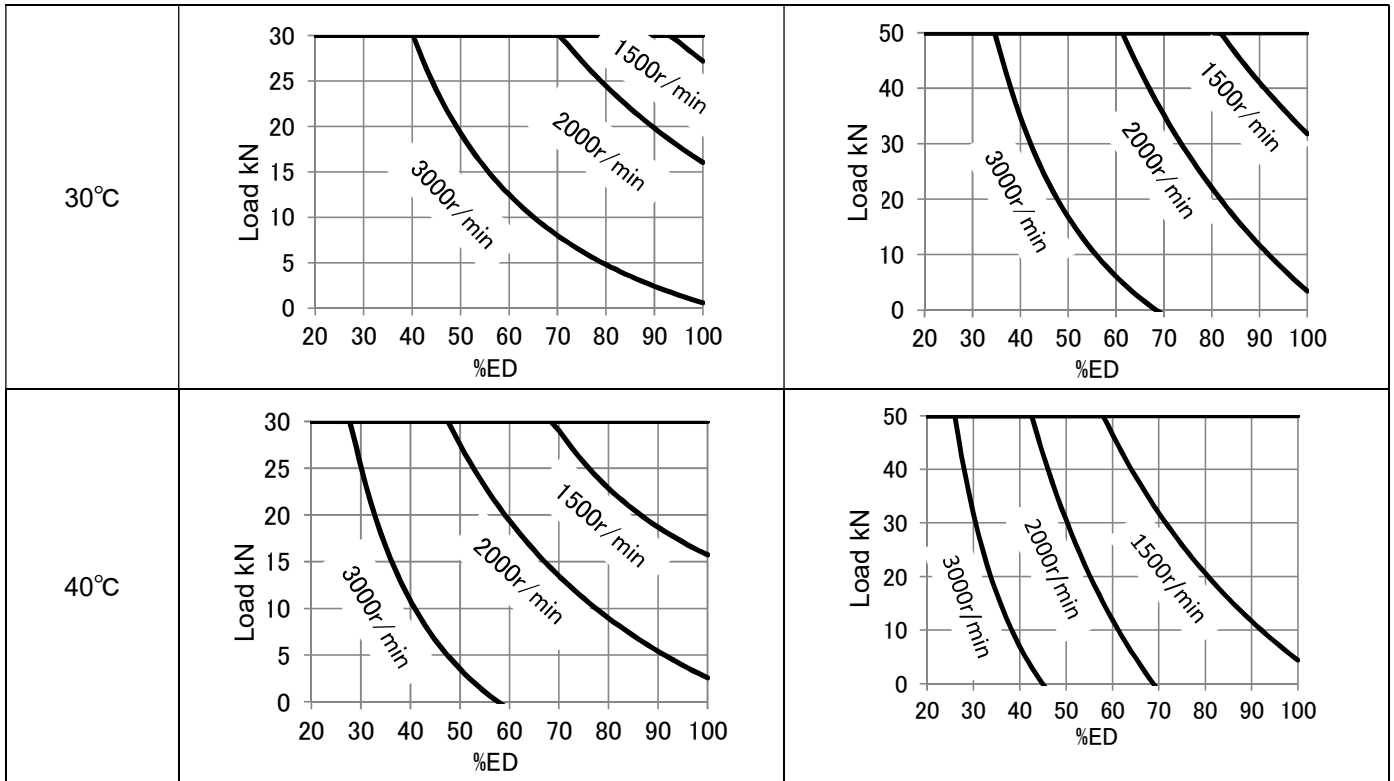

Fig.5
- ★5. Make sure that the surface temperature of the gear housing does not exceed temperature of -10°C to 90°C during operation. Please refer to Fig.5 for the standard duty cycle (%) [Operating time / (Operating time + Off time)] (Not guaranteed performance, in the case of up thrust or hanging load.)